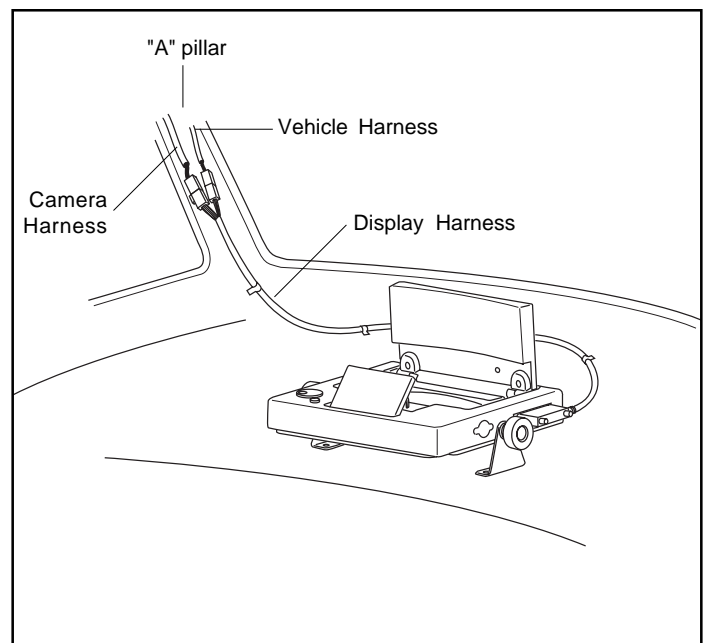

Figure 21 CB Mount (Dashboard) Installed
6. Secure the CB brackets with the four #10 Plastite® screws provided in the kit. Refer to Page 5 for screw identification and Figure 21 for a representation of the installed mount.